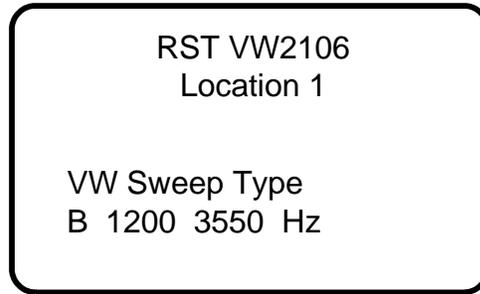

FIGURE 4-4 SELECTING THE SWEEP FREQUENCY
7. Use the up/down arrows to select the appropriate 'Sweep Frequency' for the gauge being measured at that location (Figure 4-4) and press **Enter**. The default is the "B" sweep (1200-3550Hz), which is the standard range for the RST model VW2100 series piezometers. Additional Sweep Frequencies are summarized in